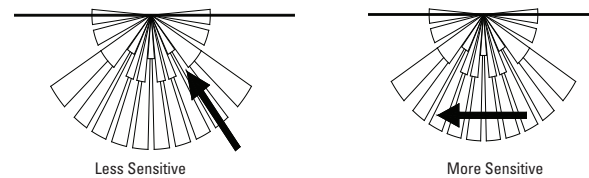

Figure 3
5. Where possible, mount the sensor in the corner of the room so that the logical path of a person would cut across the fan detection pattern. PIR sensors respond more effectively to movement across the device than to movement directly towards it. (FIGURE 3).